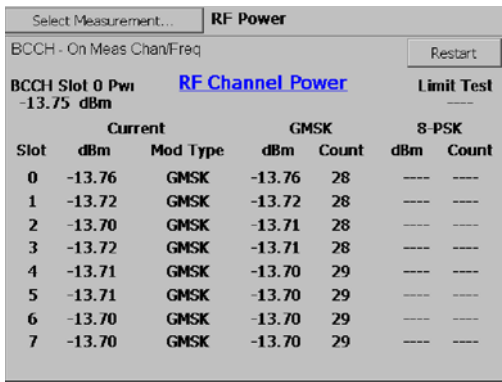

Figure 3-34: GSM/EDGE RF Power measurement
4. Tap **RF Power**. See Figure 3-34.